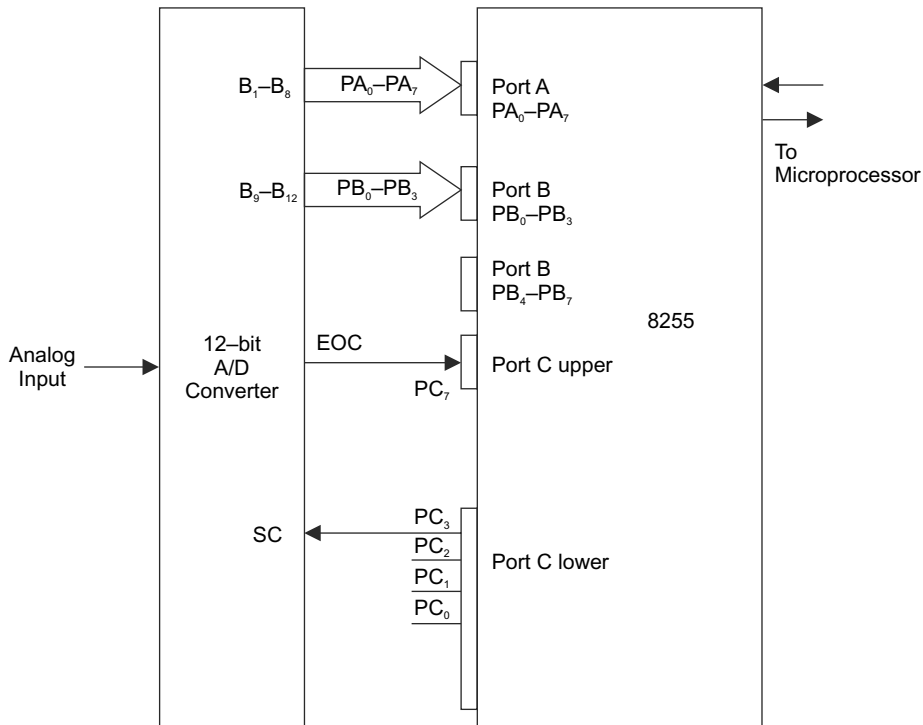

Fig. 9.52 12 bit ADC interfacing with microprocessor through 8255
Figure 9.52 shows the interfacing of 12-bit ADC with microprocessor through 8255. Port A, Port B and Port C upper of 8255 are used as inputs and Port C lower of 8255 is used as output. The start of conversion (SC) of ADC is connected with PC₃ of Port C lower; the end of conversion (EOC) is connected with the PC₇ of Port C upper. The output of ADC IC is also connected with Port A and Port B of 8255. PA₀–PA₇ are considered as LSBs of digital output of ADC and PB₀ – PB₃ are used as MSBs of digital output of ADC. The PB₄–PB₇ are opened and considered as logic 1. The program for 12 bit ADC interfacing is given below: